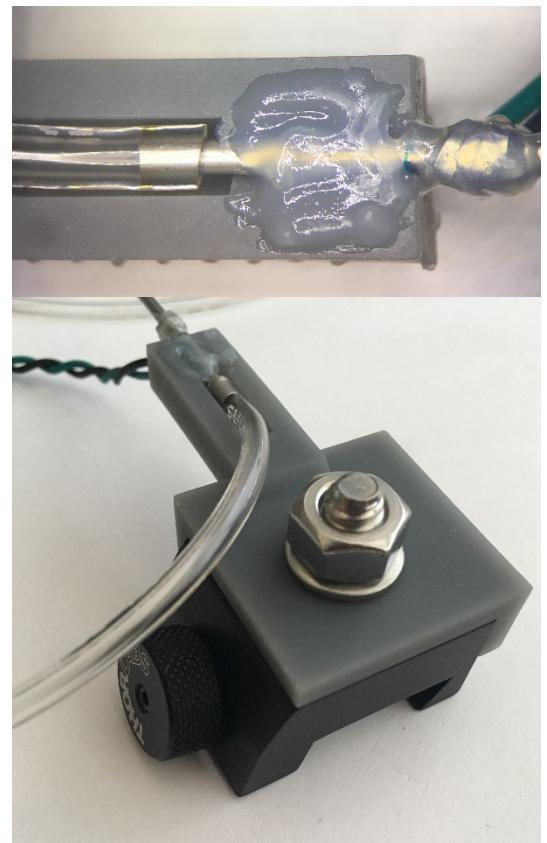

Figure 34 Tube connecting solenoid valve and lick spout. Top: Close-up of tube/spout connection
- See Figure 34 for the results of this step